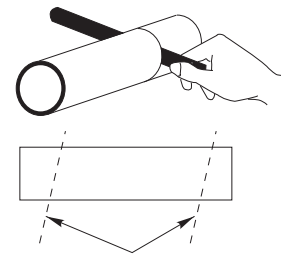

Fig. 11
- (5) Measure the thickness of the wall from the inside edge to the outside edge and cut PVC pipe at a slight angle 6 mm shorter than the thickness of the wall. (Fig. 11)